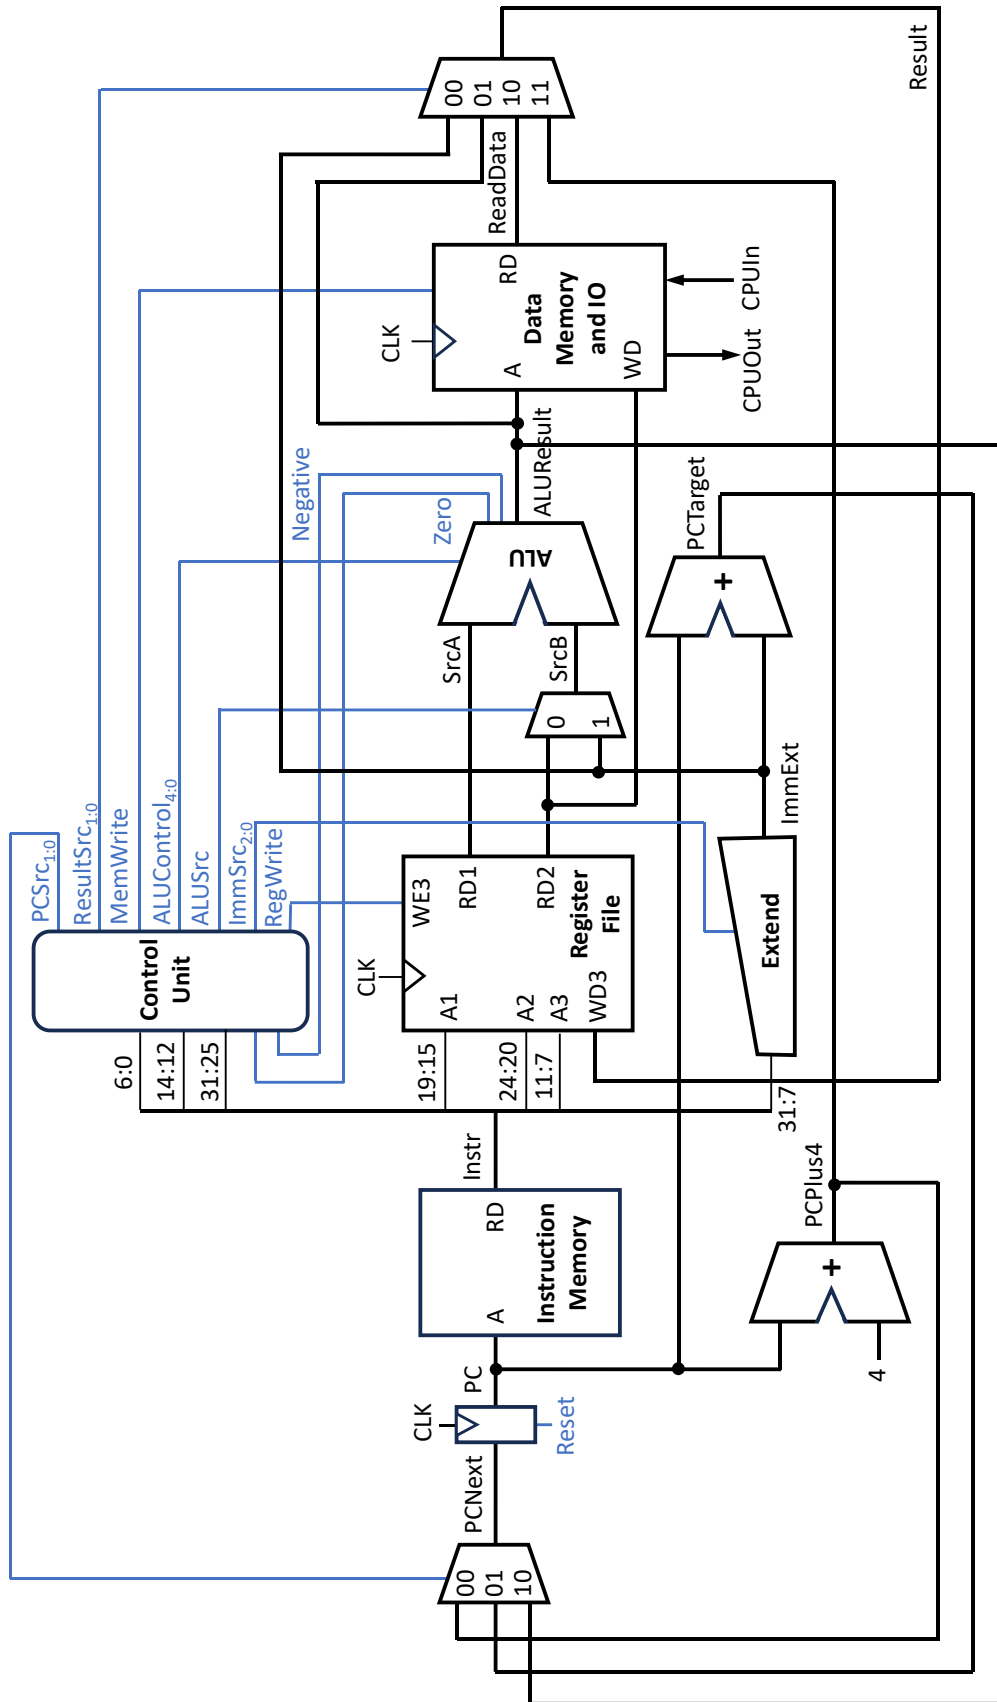

Figure 1: RISC-V microarchitecture
Figure 1 shows the microarchitecture of the processor, which can execute all of the instructions in Table 1.
- Complete the top-level module (`risc_v`), interconnecting the individual modules to form the microarchitecture in Figure 1.